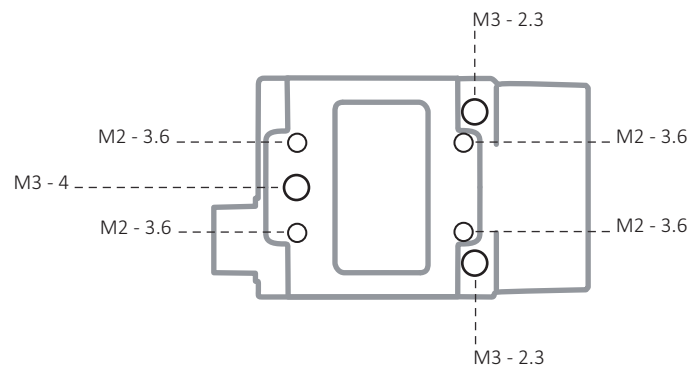

Figure 19: Mako U, Camera bottom with mounting threads
1. Attach the camera to the tripod adapter using the M3 mounting threads (see Figure 19 above).